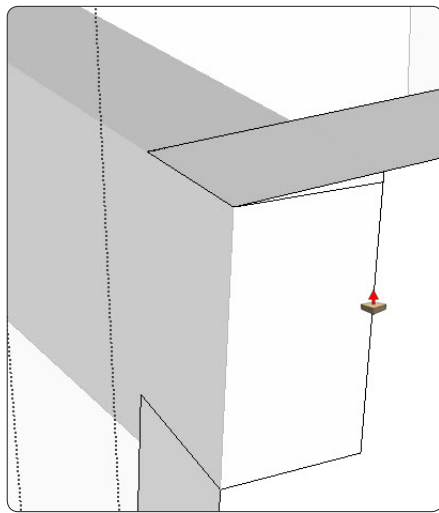

Figure 13. Use the dovetail shape on the stretcher to draw the other half of the joint on the side, then use the Push/Pull Tool to remove the waste.
Step 8 With the stretcher in place, open the side component for editing. Use the Line Tool to draw the half dovetail joint on the face of the front edge. Use the Push/Pull Tool to push out the dovetail socket in the side (Figure 13).